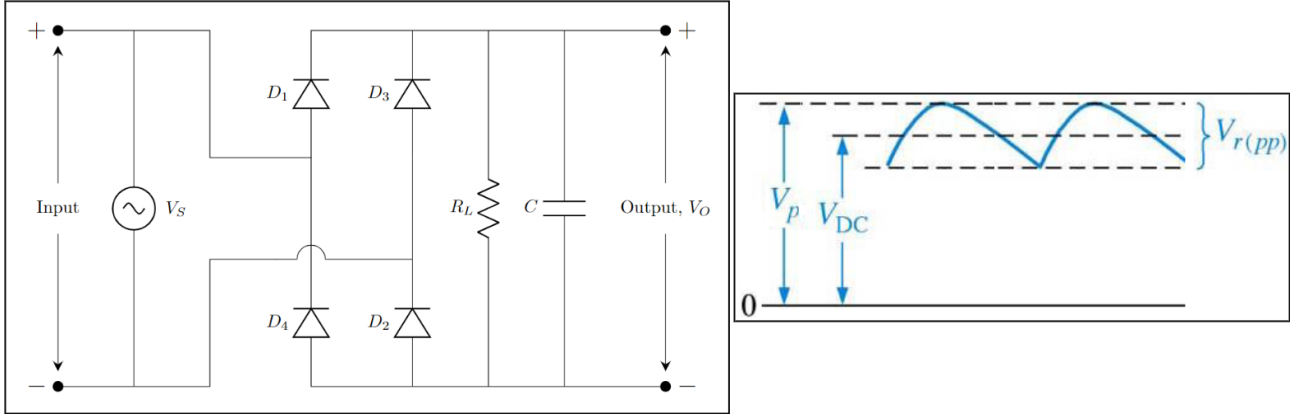

Figure 6: *Full-Wave Rectifier Circuit with Capacitor and the Waveform of Output*
1. Construct circuit of **Figure 6** without the capacitor. Observe  $V_s$  and  $V_o$  separately on the oscilloscope [i.e. don't use both channels simultaneously, use only one channel].